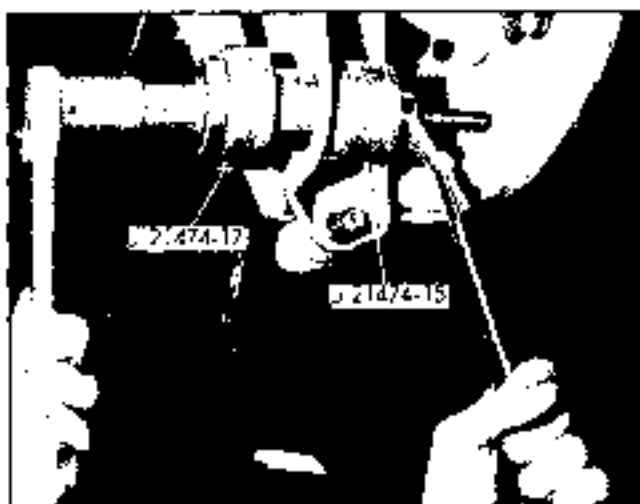

Fig. 4-10 Installing Lower Control Arm Rear Bushing - Pontiac
3. Install bushing in axle housing bracket by arranging tools as shown in Fig. 4-10 and press bushing into place. Use care to keep bushing properly aligned. Lightly lubricate bushing to increase ease of installation.